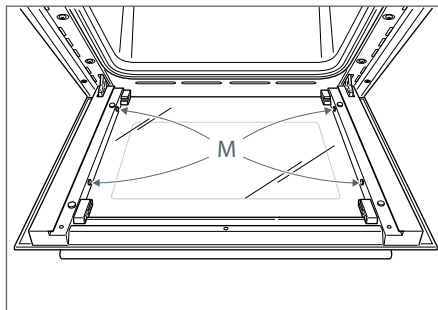

Fig.61a
- Check that the four rubber pads are in place ("M" in Fig. 61a).